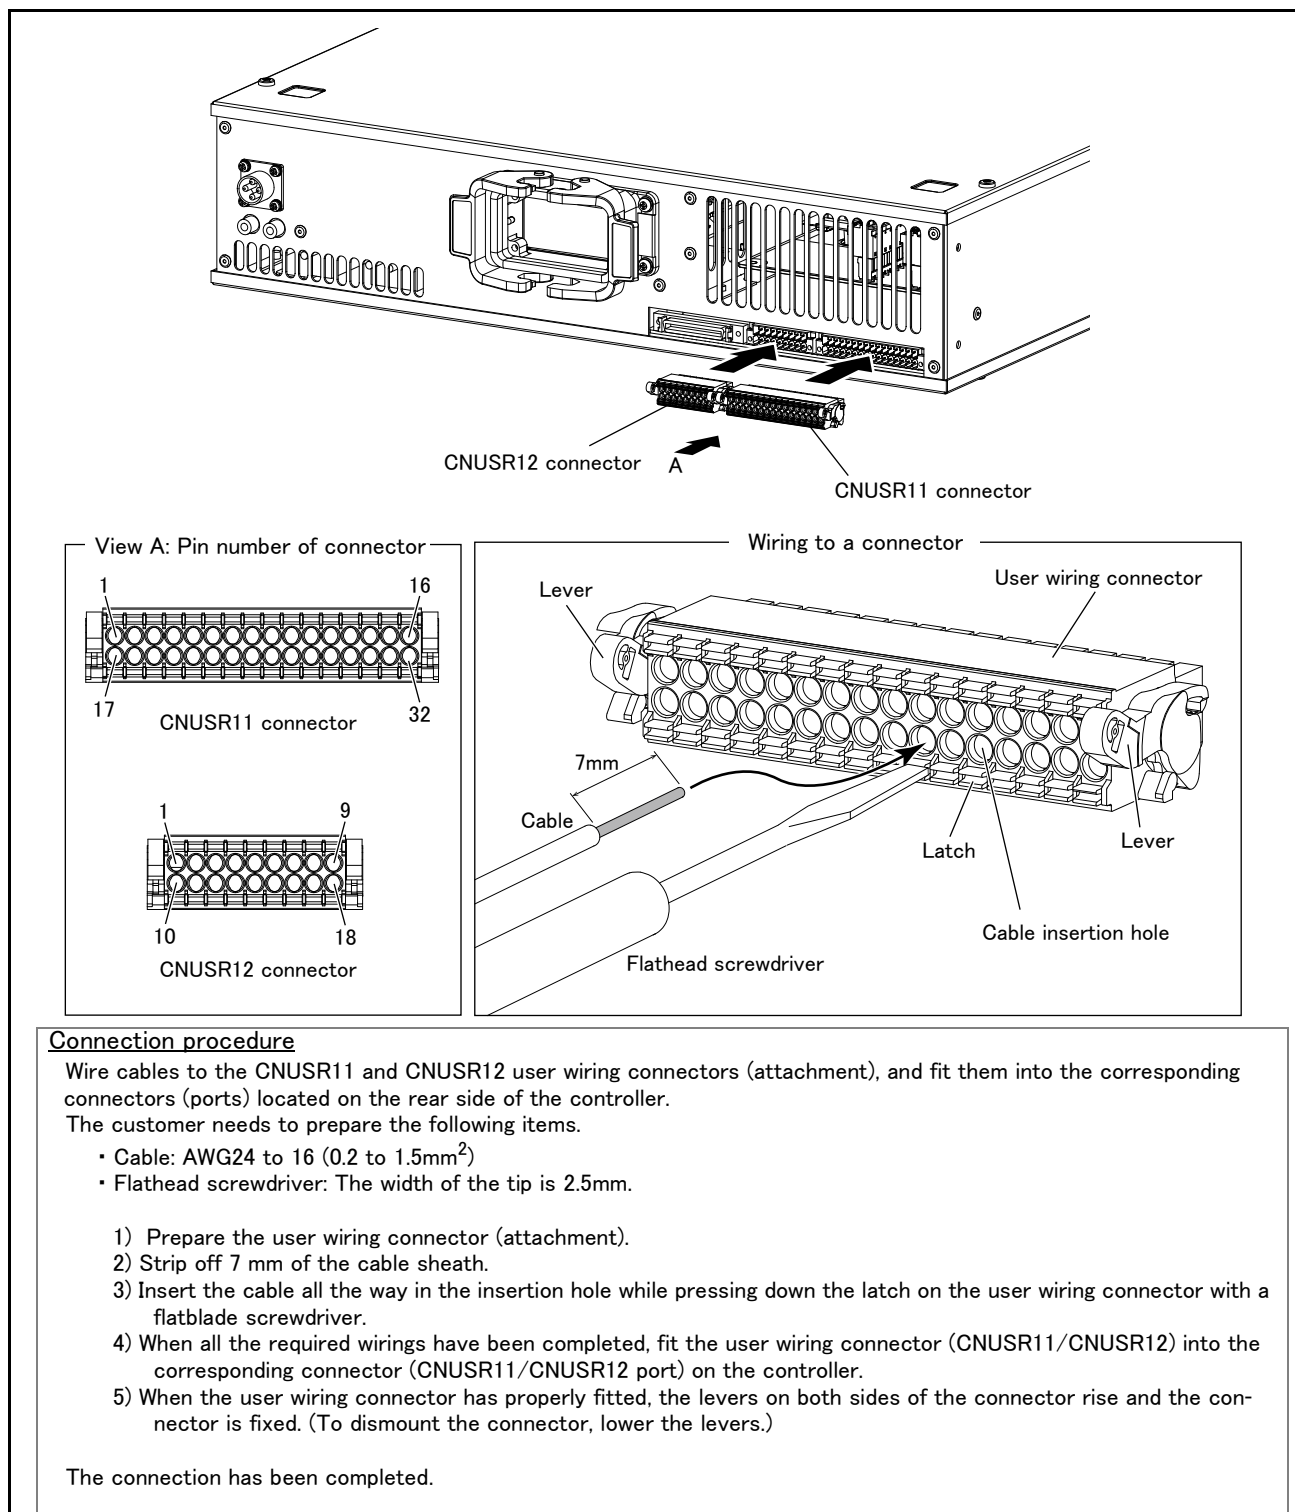

Fig.3-14 : Wiring method to the user wiring connector
* Refer to Page 182 "Fig. 3-14: Wiring method to the user wiring connector" for more details about how to wire a connector.